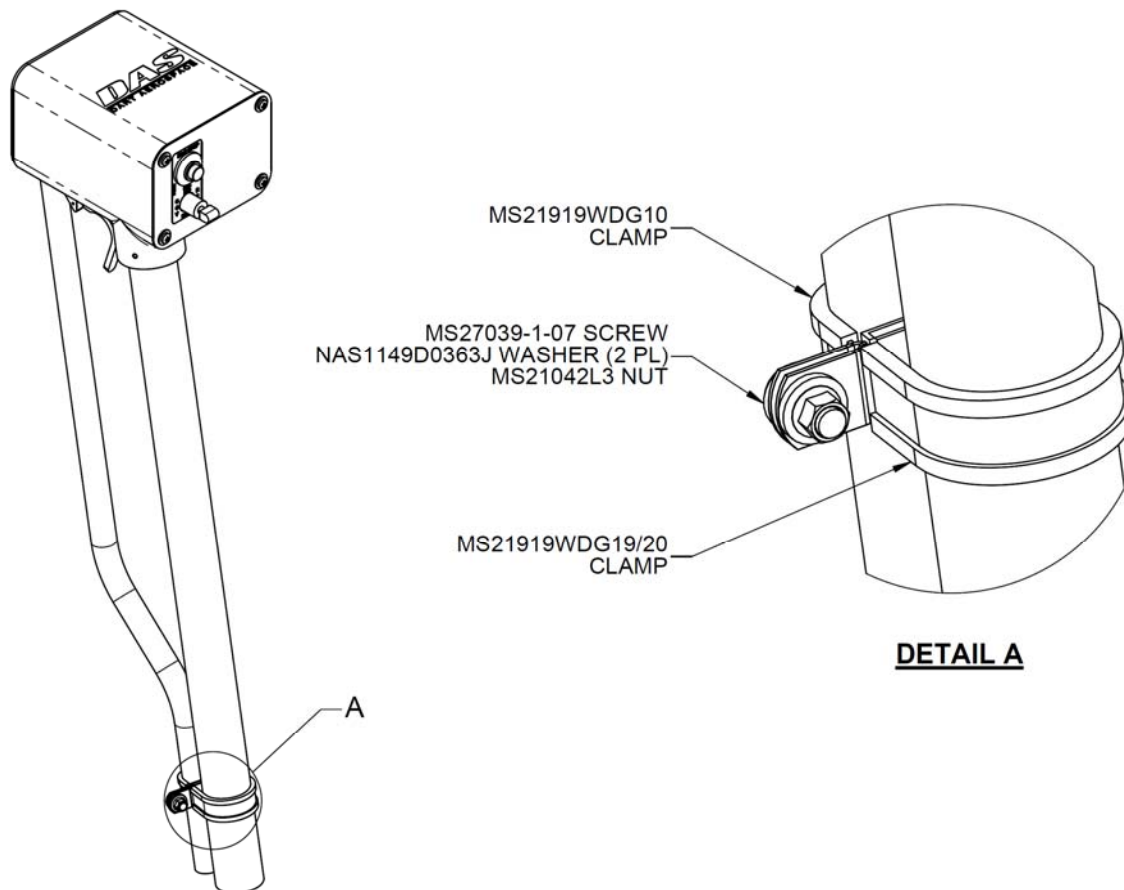

FIGURE 4: DXXX-803-XXX Wiring Conduit Clamp Detail
- 3.15.14 To install D5155-043 Co-Pilot Collective Head Assembly onto Stick Assembly (Bell p/n 212-001-117-1) transfer drill the mounting hole on the Stick Assembly to the desired location on the neck of the Collective Head. To adjust the position of the -043 Collective Head, it is acceptable to remove $\frac{1}{2}$ " to $\frac{3}{4}$ " of the neck as desired. Wet with Proseal 890 or equivalent using Pin (p/n MS171599) per Figure 27. Apply Aircraft Primer to Pin. Secure loose end of D4410-7 Conduit to Stick Assembly using hardware as shown in Figure 4. Hand form D4410-7 Conduit as necessary to secure to Stick Assembly.
- 3.17.10 To install D5155-045 Co-Pilot Collective Head Assembly onto Grip Assembly (Bell p/n 212-001-171-001), transfer drill the mounting hole on the Grip Assembly to the desired location on the neck of the Collective Head. To adjust the position of the -045 Collective Head, it is acceptable to remove $\frac{1}{2}$ " to $\frac{3}{4}$ " of the neck as desired. Wet with Proseal 890 or equivalent using Pin (p/n MS171599) per Figure 28. Apply Aircraft Primer to Pin. Secure loose end of D4410-7 Conduit to Grip Assembly using hardware as shown in Figure 4. Hand form D4410-7 Conduit as necessary to secure to Grip Assembly.